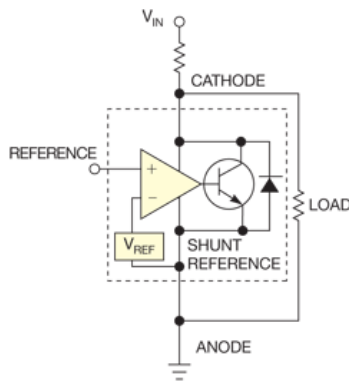

Figure 2: The two-terminal shunt voltage reference implies that the entire IC chip of the shunt reference operates in parallel with its load.
Voltage references are available in two-terminal shunt or three-terminal series configurations. The two-terminal shunt-voltage reference implies that the entire integrated circuit (IC) of the shunt reference operates in parallel with its load (Figure 2). With a shunt voltage reference, you apply an input voltage to the resistor that connects to the cathode. The typical initial voltage accuracy of this device can range from 0.5 to 5 percent, with a temperature coefficient of approximately 50 to 100 $\mu\text{V}/^\circ\text{C}$. The shunt voltage reference is appropriate for converters with less than 8 bits.